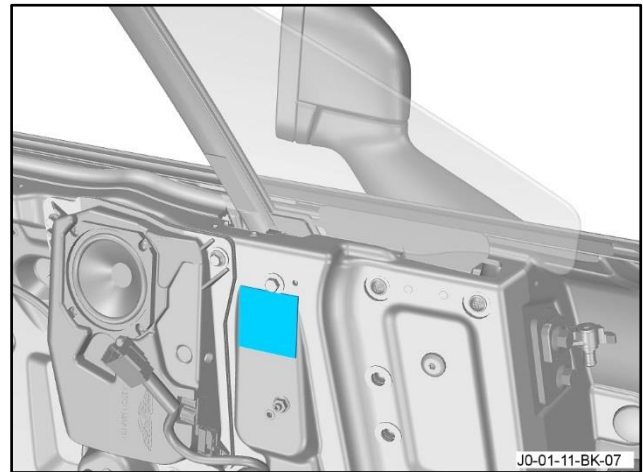

Figure 30
15. Install a new sealing pad (refer to Figure 30).